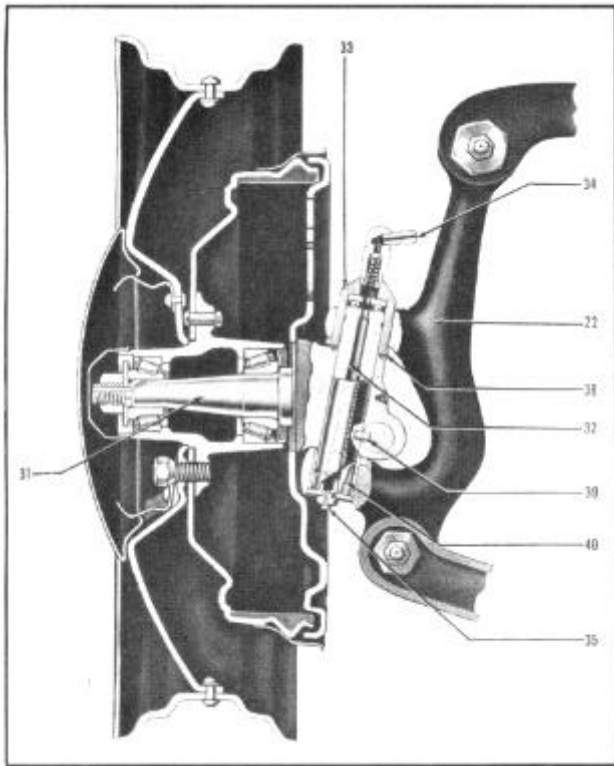
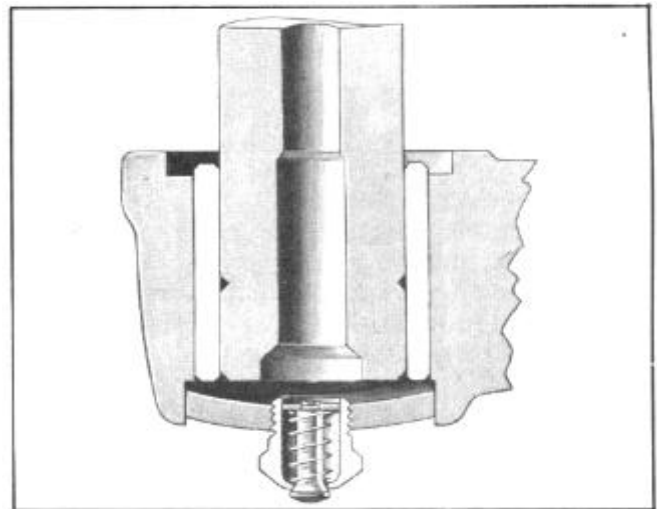

FIGURE 13
FIGURE 14
A grease pressure relief valve, Figure 14, is fitted into the expansion plug at the bottom of the steering spindle pivot bolt.
6. Remove the four bolts and nuts holding front brake backing plate (9), to spindle.
8. Remove cotter key, nut and washer holding the steering arm (14) Figure 2 to the steering spindle (31), Figure 13.
(32), Figure 13, out of spindle. This action will force out expansion plug and relief valve, Figure 14, at the bottom of spindle. Then insert the long driver tool J-479 and drive pivot pin out of spindle and spindle support.